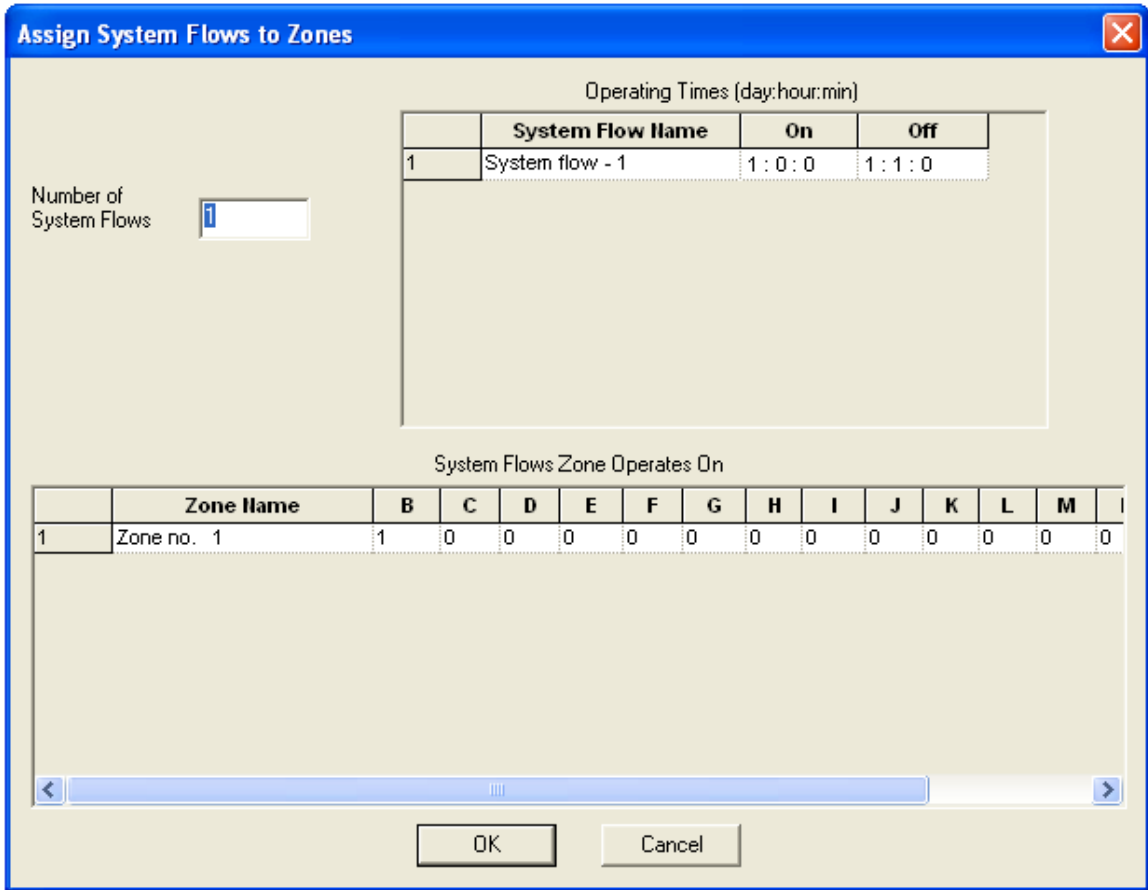

Figure SD 4
15. Now we wish to assign the zones to system flows. Select *Design|Assign All Zones to One System Flow* as we only have one Zone (control valve or block). You will notice that "Zone no. 1" will operate on **System Flow 1** as in Figure SD 4. Click [OK].